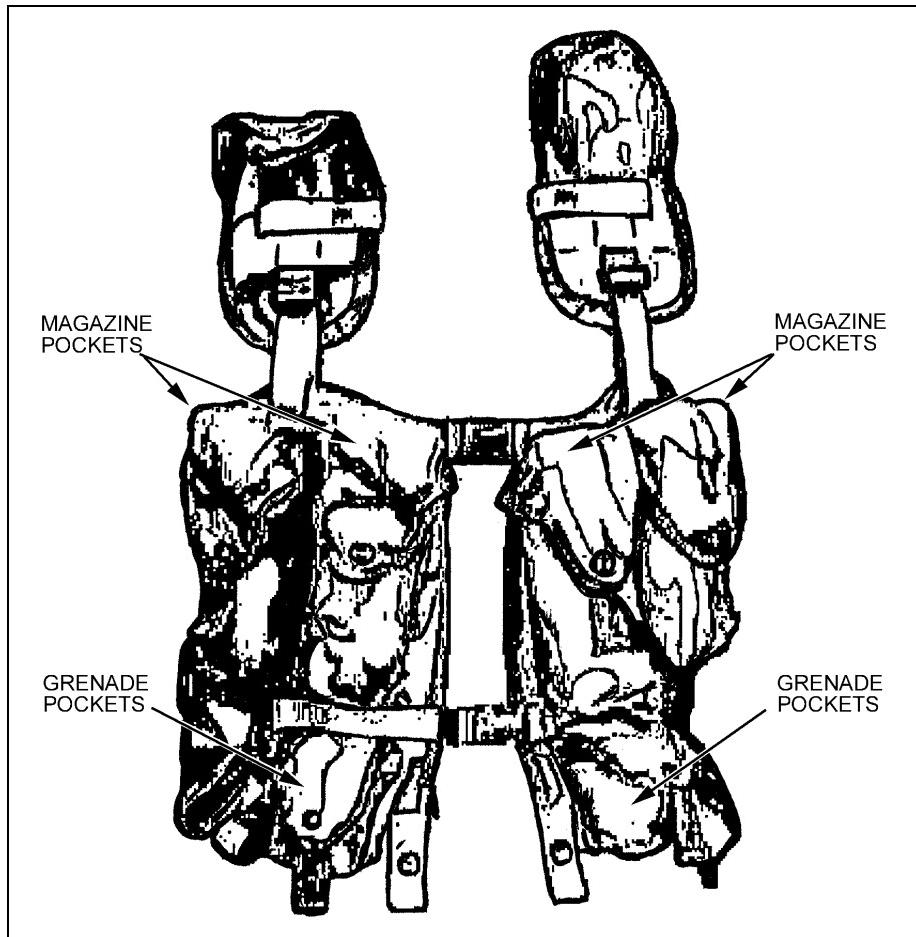

Figure 3-2. Enhanced tactical load-bearing vest.
d. Carry hand grenades either on the ammunition pouch, using the carrying safety straps that designed specifically for this purpose (Figure 3-1), or in the grenade pockets of the enhanced tactical load-bearing vest (Figure 3-2).